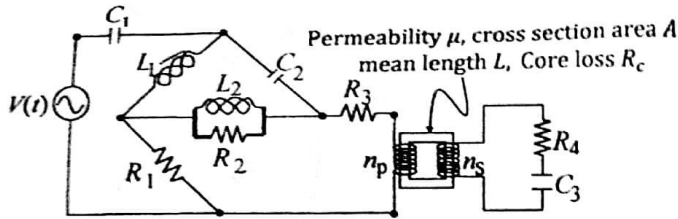

Fig. 1.
1. Draw a bond graph model of the system shown in Fig. 1. By using gyrator equivalence, refer the magnetic domain to the equivalent electrical system model in the secondary side and then remove the ideal transformer from the circuit using transformer equivalence. Convert the final bond graph model back to the electrical circuit diagram. The primary and secondary side winding inductances are L_p and L_s , respectively (not shown in Fig. 1), and the number of turns in the primary and secondary sides are n_p and n_s , respectively. For the transformer, the mean core length is L , the average core cross-section area is A and the magnetic permeability of the core is μ . Assume that all magnetic domain losses (core loss, flux leakage, etc.) can be approximated by a single resistance R_c in the magnetic domain model. There is no need to causal the model.